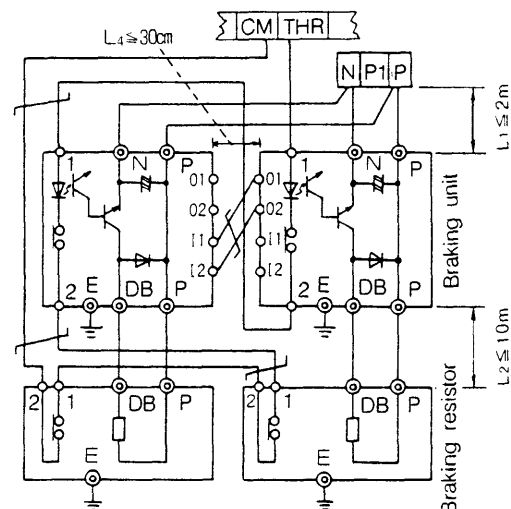

Fig. 6-2-6 Connection of braking units and braking resistors
- (4) Connection of braking unit(s) and braking resistor(s).
- ① Be sure to connect braking unit(s) in combination with braking resistor(s) for 55 kW or above. The number of braking units and braking resistors differs according to types as shown in Fig. 6-2-6. Make connections following 12 (4) Braking units and braking resistors, Specifications. Be sure to make the terminal symbols P and N of the braking unit correspond to those of the inverter.
- ② Remove the short bars between terminals CM and THR connected at shipment, and make a circuit from THR to CM through the thermal contacts both in braking units and in braking resistors in series. Connections for the thermal contact of braking units should be such that the terminal 1 is toward the inverter terminal THR and terminal 2, toward CM.